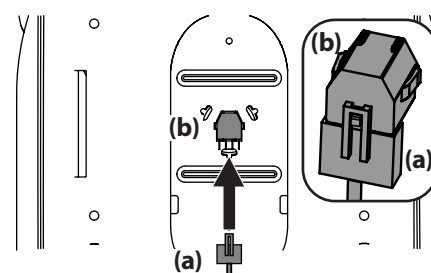

Figure 8
3. If necessary, securely connect the seat switch wiring harness (a) to the seat switch (b). See Figure 8. Secure excess wire away from pinch points before continuing.